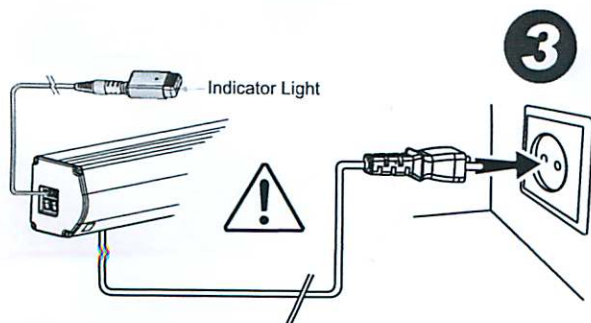

Figure 3
3. Connect the screen to its power source. Once the indicator light is on, the Wireless Synchro Converter will be ready for use (Figure 3).